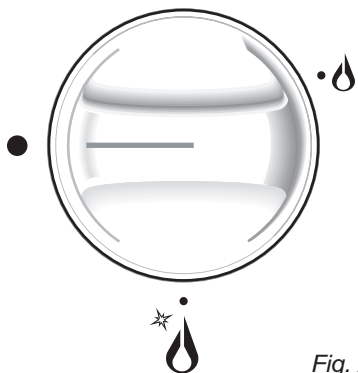
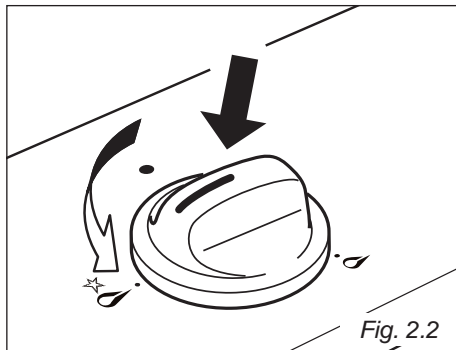

Fig. 2.1
Fig. 2.2
Gas flow to the burners is adjusted by turning the knobs (illustrated in fig. 2.1 - 2.2) which control the valves.
1. Press in the corresponding knob and turn counter-clockwise (fig. 2.2) to the full flame position marked by the "★" symbol (fig. 2.1); hold the knob in until the flame has been lit.